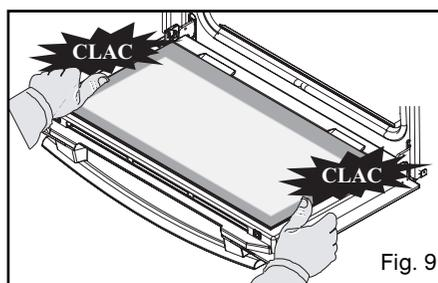

Fig. 9
- Attach the frame by squeezing it into the door. Do not press on the frame alone. (Fig. 9).